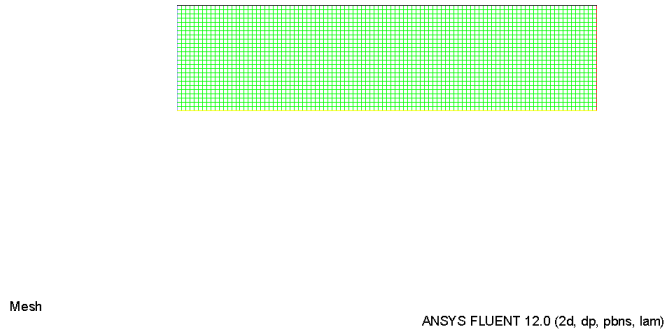

Figure 2: Mesh Display
2. Check the mesh (see Figure 2).